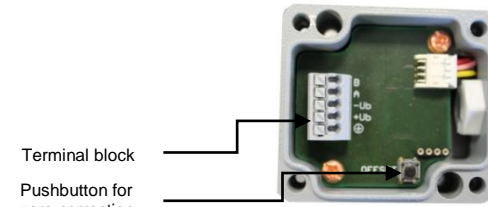

Fig. 3: Connection diagram
The LPT 100 can be zeroed via a button. To do so, press the button (Fig. 3) for about 3 seconds.
- 6. Press the button (Fig. 3) for about 3 seconds.